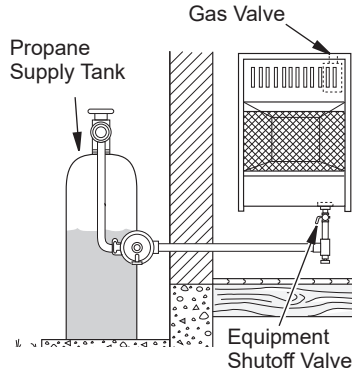

Figure 15 - Checking Gas Joints
4. Check all joints from equipment shutoff valve to control valve (see Figure 15). Apply a noncorrosive leak detection fluid to all joints. Bubbles forming show a leak.